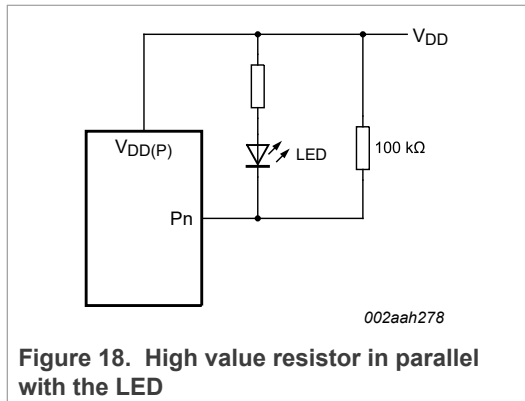
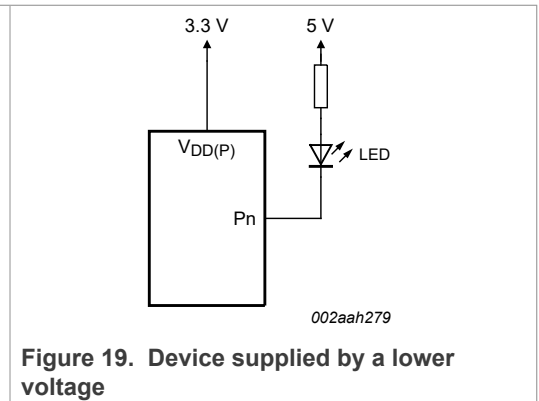

Figure 18. High value resistor in parallel with the LED
Figure 19. Device supplied by a lower voltage
Designs needing to minimize current consumption, such as battery power applications, should consider maintaining the I/O pins greater than or equal to VDD when the LED is off. Figure 18 shows a high value resistor in parallel with the LED. Figure 19 shows VDD(P) less than the LED supply voltage by at least 1.2 V. Both of these methods maintain the I/O VI at or above VDD(P) and prevents additional supply current consumption when the LED is off.